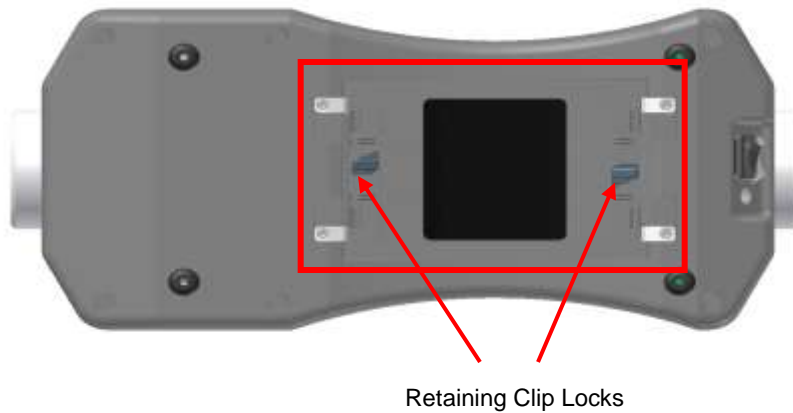
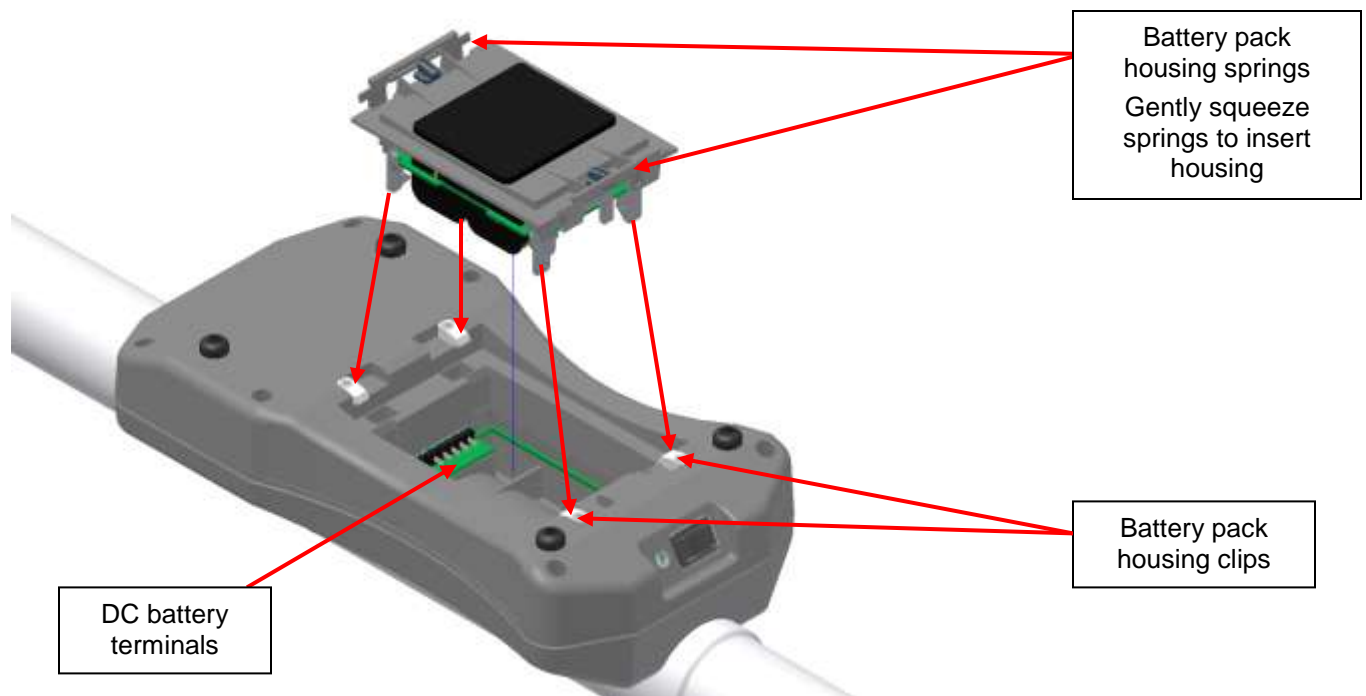

Figure 4: EMP-400 Electronics Assembly bottom view showing the location of removable battery pack outlined in red.
Figure 7: Inserting the removable battery pack into the EMP-400 electronics.
The EMP-400 is powered by re-chargeable Li-Ion batteries. The batteries are accessible via the removable battery pack located on the bottom of the electronics assembly (Figure 4).
The EMP-400 battery pack is removed from the unit by *gently* pulling the removable battery pack retaining springs towards each other (towards the center of the battery pack) until they snap out from beneath the four (4) delrin retaining clips screwed into the bottom of the EMP-400 electronics assembly (Figure 4 above and Figure 7 below). The locks on the battery pack retaining clips prevent the clips from accidentally opening when the EMP-400 base brushes against tall grass, field stubble or other surface objects. Engage the locks by turning the clip locks 90 degrees clockwise. The operator can use the reverse end of the PDA stylus to turn the locks.
- A full battery is indicated by five (5) rectangular squares located on the battery gas gauge on the end of the battery opposite the five (5) battery contact slots.
- The removable battery pack also accepts eight (8) AA 2500 NiMH batteries for system power backup when the Li Ion batteries are recharging. The operating time for AA batteries at one measurement per second at an ambient temperature of +25° C:
3. Press gently on the top of the battery pack until the retaining springs click into place (Figure 7). Be certain the clip locks have been rotated counter-clockwise (unlocked) before pressing on the retaining springs.
- The pack can be removed by gently pinching the battery pack housing springs until the springs un-snap from beneath the four white battery pack housing clips (Figure 7).